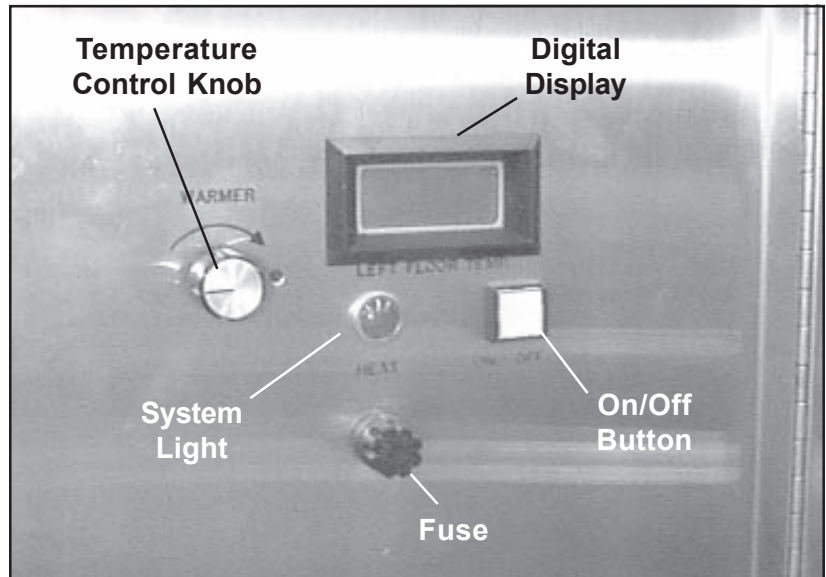

Figure 43. Floor Temperature Controls (Left Shown, Controls for Right Side are Identical)
3. Turn the temperature control knob (Figure 43) clockwise until the red system light comes on. Heat to the left half-size compartment floor comes on.
4. Watch the digital display (Figure 43). It should show a temperature increase.